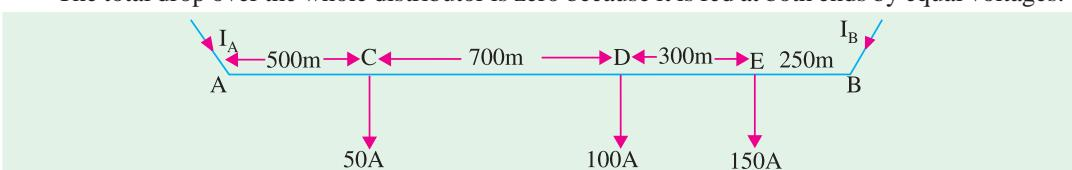

Fig. 40.15
**Solution.** The distributor along with its tapped currents is shown in Fig. 40.15. Let the current distribution be as shown. Resistance per metre double is =  $0.1/1000 = 10^{-4} \Omega$ .